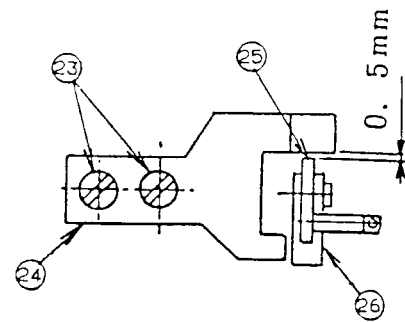

Fig.7
1. To adjust the cutting starting lever arm. (Fig.7)